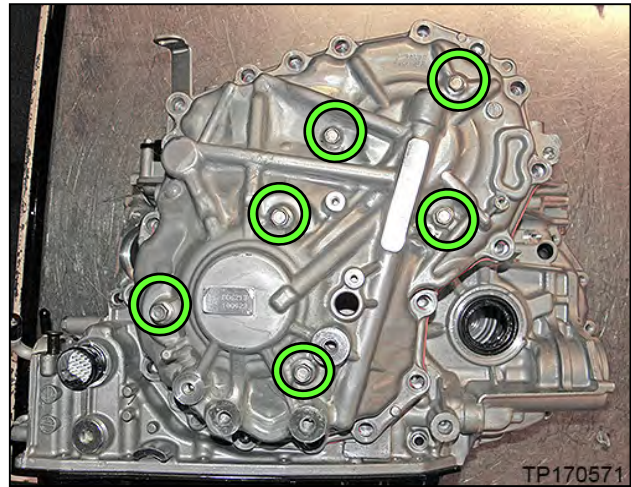

Figure 76
57. Remove the six (6) pulley bracket bolts (Figure 76).
- c. Install the Lifting Fixture to the CVT case at the 6 bolt holes shown in Figure 76.
1. Tighten the lower six (6) wing-nut bolts.
2. Tighten the two (2) joint to triangle brackets.